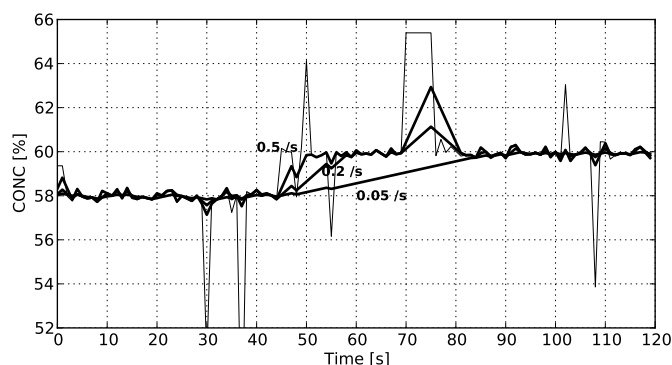

Figure 6.3 Slew rate damping
The slew rate limit can be set through the menu item 5 SLEW RATE. Typical values depend on the concentration unit but are typically from 0.05 % to 1 % when the concentration is measured in percentages. Figure 6.3 gives an example of different slew rate limits.